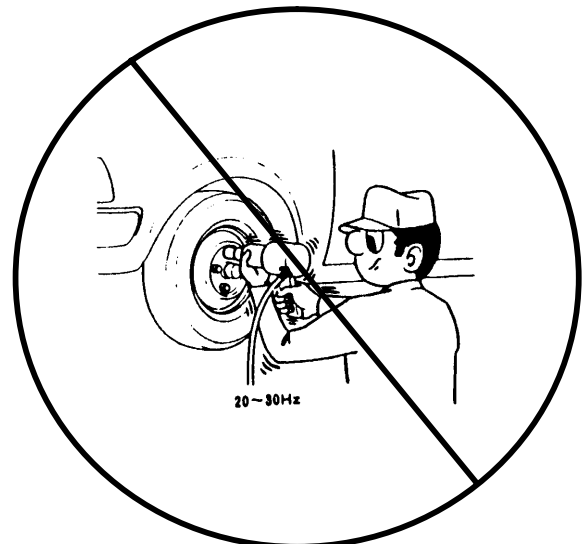

Figure 7
- Tighten lug nuts to the specified torque following a star sequence when installing wheel (**see Figure 7 below**).